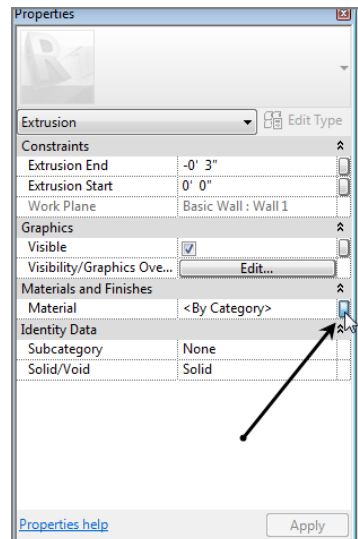

FIGURE 17.18: Clicking the button to add a material parameter
14. In the Properties dialog box, make sure the type is set to Extrusion, as shown in Figure 17.18.
16. Click the small button to the right of the Material row (see Figure 17.18).